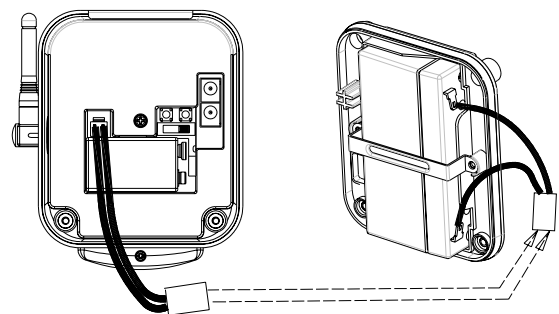

FIGURE 2
5. Connect the connector of rechargeable battery wire to the wire of battery jack. (FIGURE 2)